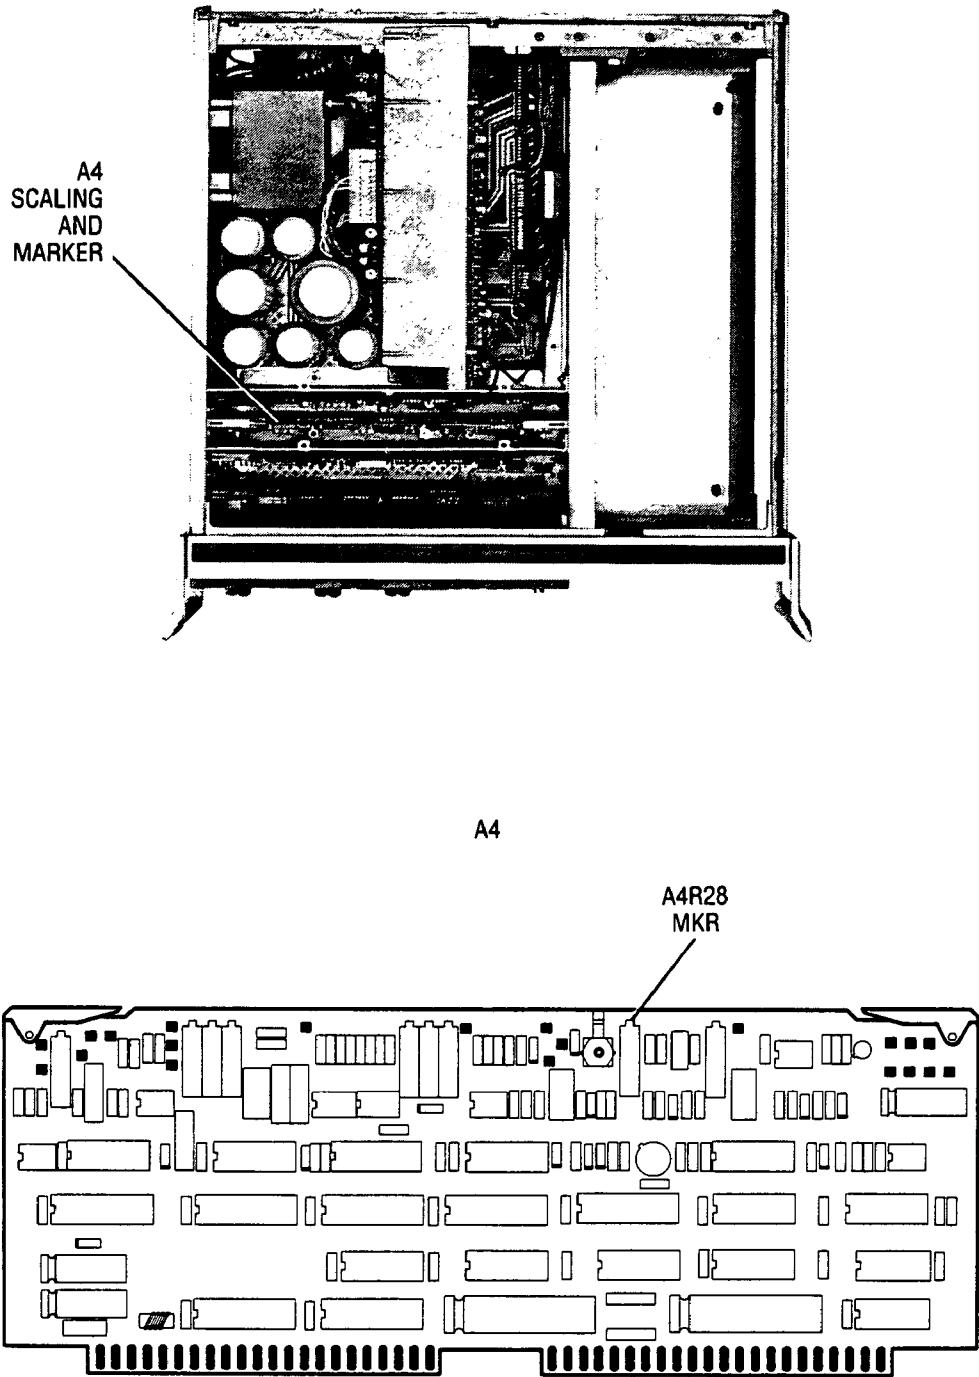

Figure 5-18. Location of Marker DAC Adjustment
7. Preset A4R28 fully clockwise to insure that a marker will occur before the end of the sweep ramp is reached. Refer to Figure 5-18.